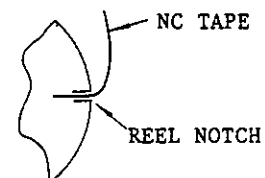

Fig. 5.5
2. Insert the trailing end of the punched part program tape into the slit in the hub of the right reel, and wind the tape on the reel. See Fig. 5.5.